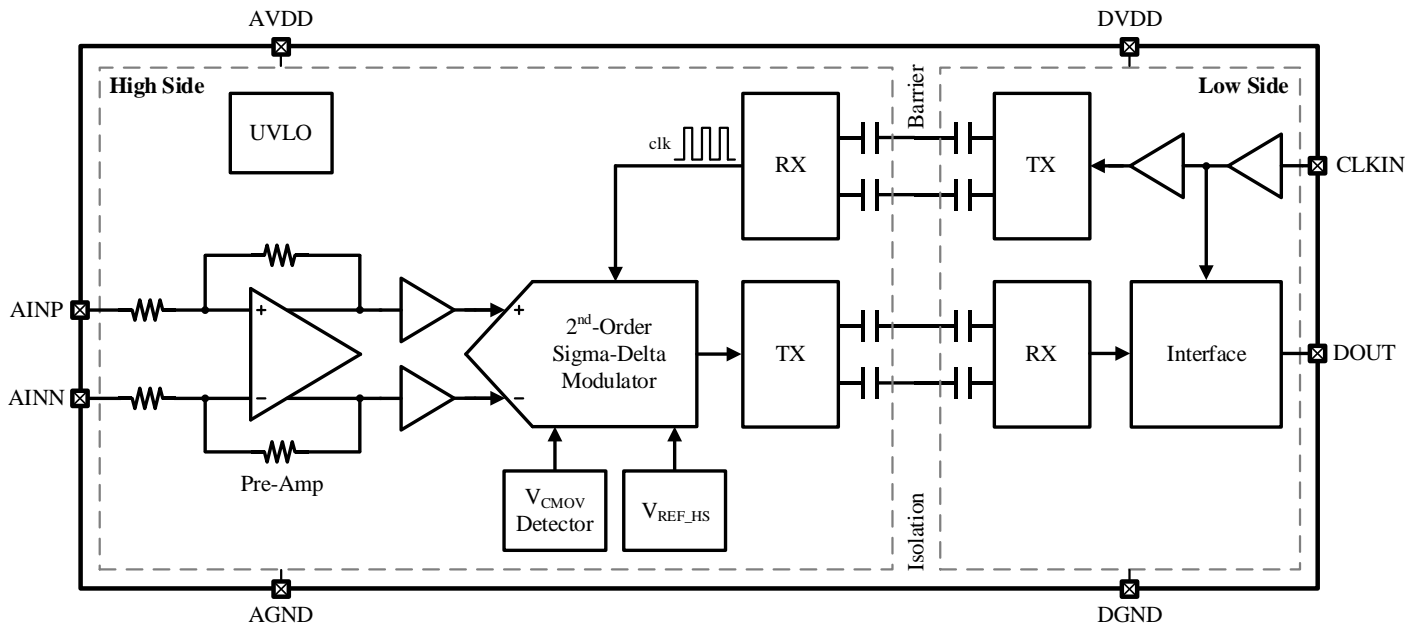

Figure 8-1 Functional Block Diagram of CA-IS1306x
The CA-IS1306x devices are series of high-precision isolated sigma-delta ($\Sigma\Delta$) modulators optimized for shunt-resistor-based current sensing. The functional block diagram of this device is shown in Figure 8-1. At high side, the fully differential amplifier pre-amplifies the measuring voltage across a shunt resistor and then drives a 2nd-order sigma-delta ($\Sigma\Delta$) modulator. This modulator converts the analog signal to a 1-bit digital bitstream. For transmission across the SiO₂-based isolation barrier, the digital stream is further modulated with a high-frequency carrier using a simple on-off keying (OOK) modulation scheme. The receiver (RX) recovers the modulated signal to the original digital bitstream at low side. For synchronization of the whole chip, the external clock is sent back to high side ensuring that all clocks come from one source. The output bitstream is synchronous to the external clock at CLKIN pin. The time average of this serial bitstream is proportional to the analog input voltage within the specific range. The external clock input contributes to the synchronization of multiple current-sensing channels at the system level.